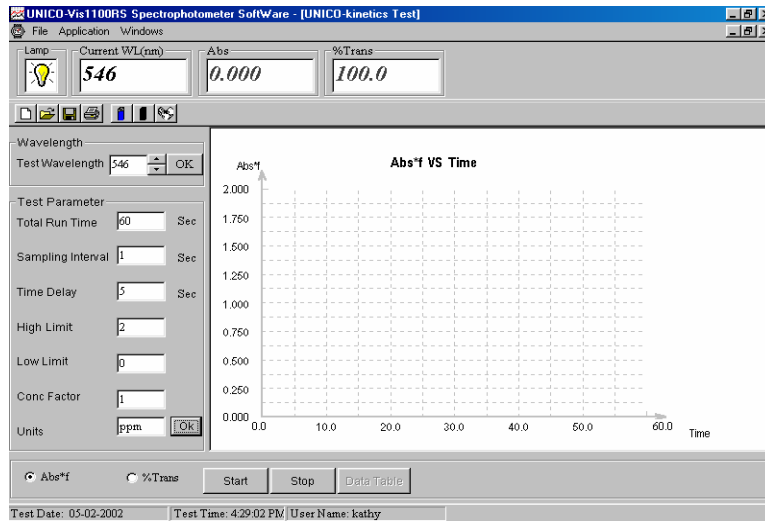

Figure-35 Test Parameters Setting
Step 4: Set the **Test Parameters** (Figure-35) (**Step 4~Step 8**). Set the **Total Run Time** by typing into the Text Field on the right of the **Total Run Time** label. This is the total time for the reaction to occur.